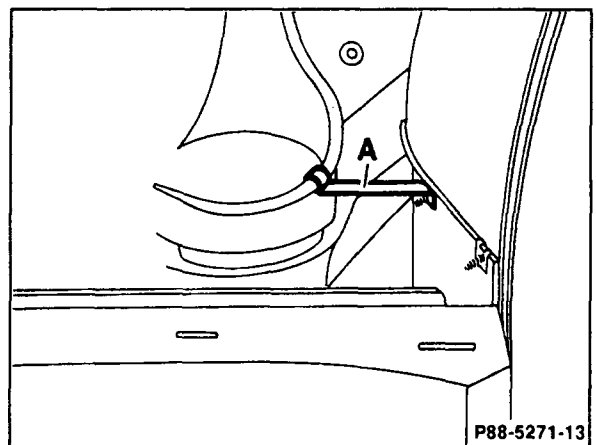

Figure 10
6. Position side skirt and secure in place using original mounting screws. Engage retaining bracket (A, Figure 10) in subframe bracket. Screw side skirt and inner wheel well liner to mounting bracket (A).